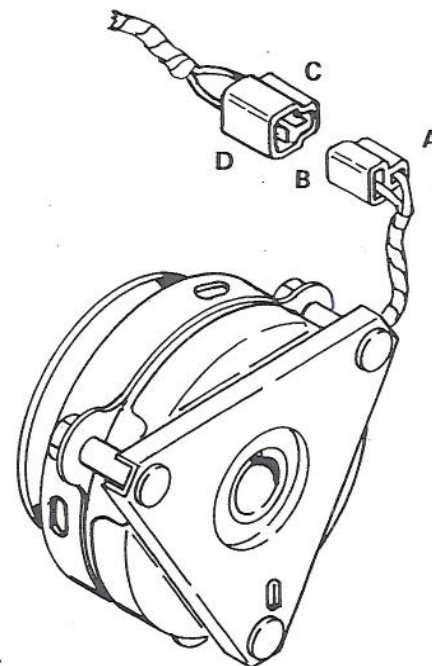

FIGURE 2
4. Connect one meter lead wire to terminal in clutch connector at A (See Figure 2).
5. Connect the other meter lead wire to the corresponding terminal in the mating connector at C (See Figure 2).
6. Connect a short wire from D to B terminals in both connectors (See Figure 2).
4. Connect one meter lead wire to one wire in clutch connector at A (See Figure 2).
5. Connect the other meter lead wire to the corresponding wire in the mating connector at C (See Figure 2).
6. Connect a short wire from D to B in both connectors (See Figure 2).